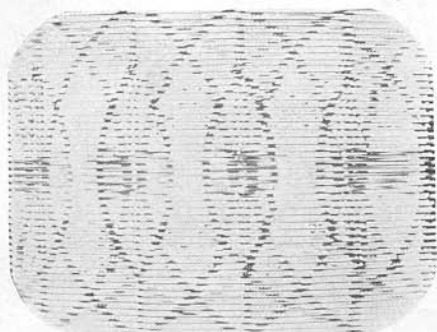

Figure 6—INCORRECT HORIZONTAL HOLD
Horizontal and Vertical Hold Controls.—The dual knob on the right of the row controls the picture stability. The inner section designated by a "I" is the Horizontal Hold Control and when being set should be turned slowly to the point at which the picture "locks in" horizontally. Figure 6 shows the effect of incorrect setting of the control.
6. If the picture is not steady, the "Hold" controls will require slight readjustment. If the picture is moving sideways the Horizontal Hold (inner "I" section of the knob) requires readjustment. If the picture is moving up or down or is off position, then the outer ring "O" of the knob, Vertical Hold Control, requires readjustment. See Figures 6 and 7.